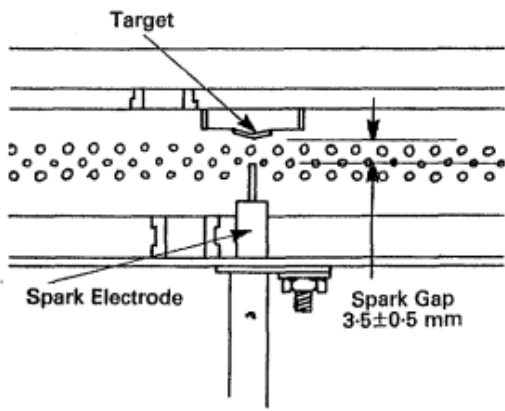

Fig. 12. Spark Gap
9. Check that the spark gap is correct i.e. between 3 and 4 mm. (Fig. 12).
On re-assembly ensure that the spark gap is between 3 and 4 mm and that the glass fibre sleeve is correctly fitted over the ceramic insulation on the electrode. Ensure that the electrode lead is replaced in the retaining clip and that the black plastic cap is pushed on to the piezo unit. (Fig. 12).